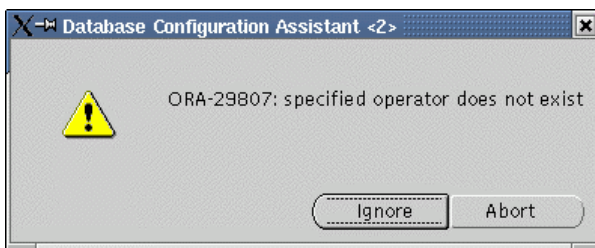

Figure 89. dbca error message
20. We encountered the popup window, shown in Figure 89, warning of error message ORA-29807. According to Metalink docid 237486.1, this message may be ignored. Click **Ignore** to continue.